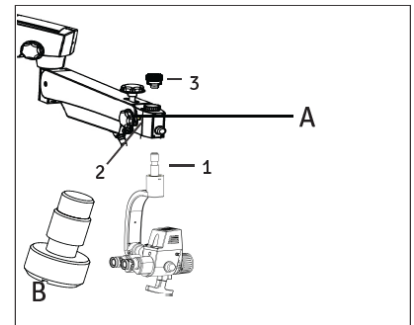

Fig. 39
4. Retrieve the inclined coupler with magnichanger from the packing and follow as below referring Fig.39.
- Install the coupling to the suspension arm by sliding the guiding shaft (1) into the suspension arm.
- Lock the inclined coupling with the threaded plug (3).
Caution: Make sure that safety screw (B) must tight in place at position (2) to avoid sudden falling of the coupling. Safety Screw always tied with the Carrier arm locking knob A as per Fig. 39